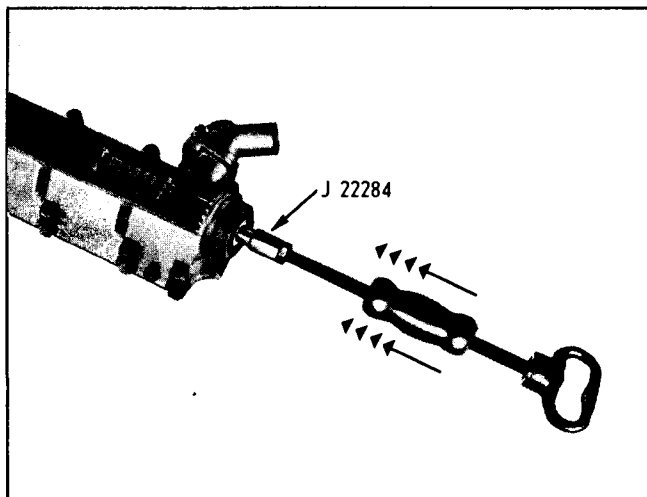

Fig. 6-15 Removing Camshaft From Cover
3. Using J 22284 adapter and slide hammer J 2619 carefully drive camshaft rearward* from rocker arm cover (Fig. 6-15).